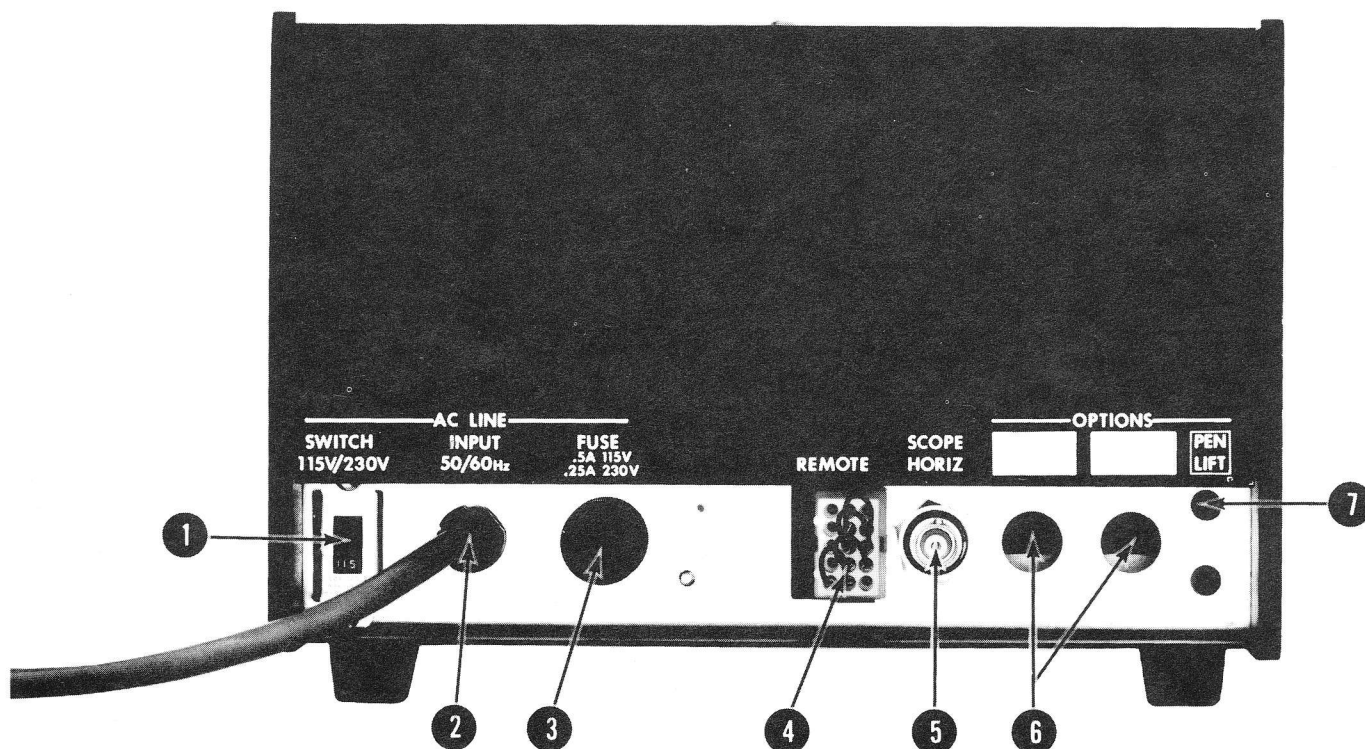

Figure 3-2. Rear Panel
3.3 DESCRIPTION OF REAR PANEL (Refer to Figure 3-2 for location)
① SWITCH 115/230V —